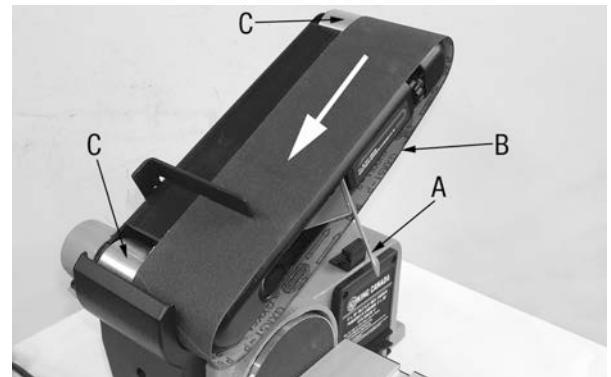
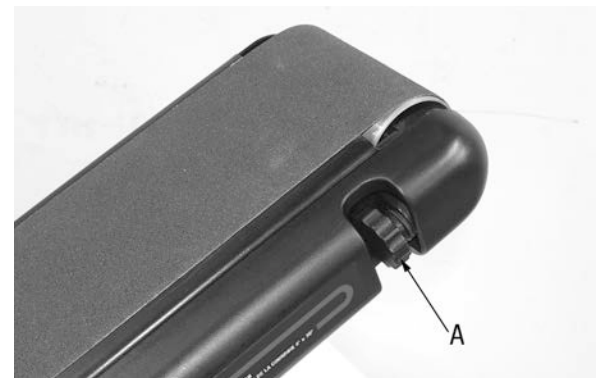

Figure 9
Figure 10
1. Slide tension lever (A) Fig.9 to the right to release the belt tension.
2. Place the sanding belt (B) over the drums (C) with the directional arrow pointing as shown. Make sure the belt is centered on both drums (C).
3. Slide tension lever (A) to the left to apply belt tension.
5. If the sanding belt moves toward the disc, turn the tracking knob (A) Fig.10 clockwise 1/4 turn.
6. If the sanding belt moves away from the disc, turn the tracking knob (A) counter-clockwise 1/4 turn.